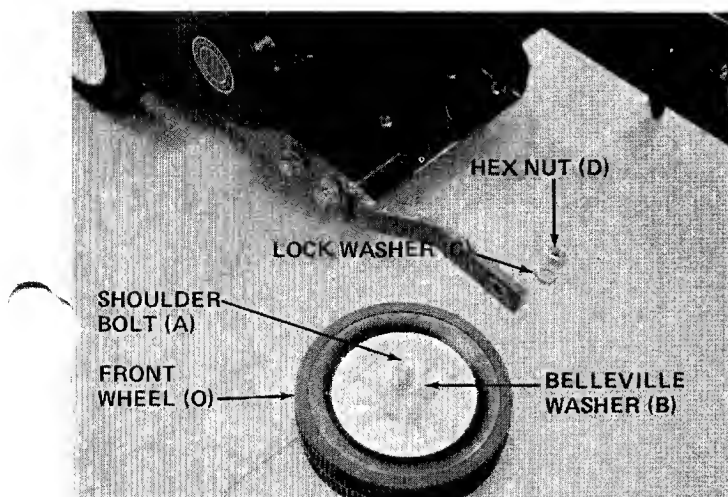

FIGURE 4.
5. Assemble the front wheel (O) as shown in figure 4. Place shoulder bolt (A) through wheel, next belleville washer (B) (between wheel and frame). Secure with lockwasher (C) and hex nut (D). See figure 4.